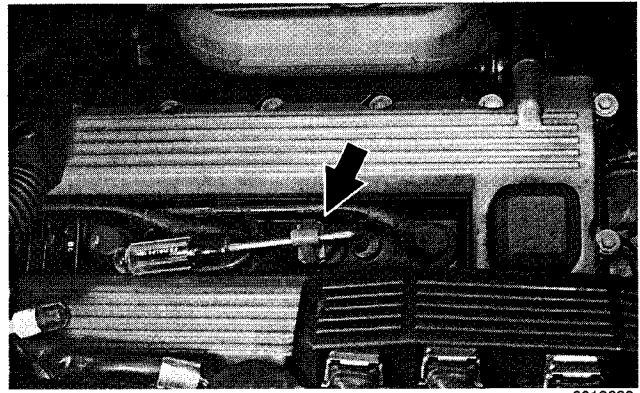

Fig. 7. Remove spark plug wires from spark plugs on 4-cylinder engine using special tool. Tool is stored under cover at rear of cylinder head (arrow).
2. On 4-cylinder engine: Remove plastic engine cover from top of cylinder head. Disconnect spark plug wires and remove spark plugs. See Fig. 7.